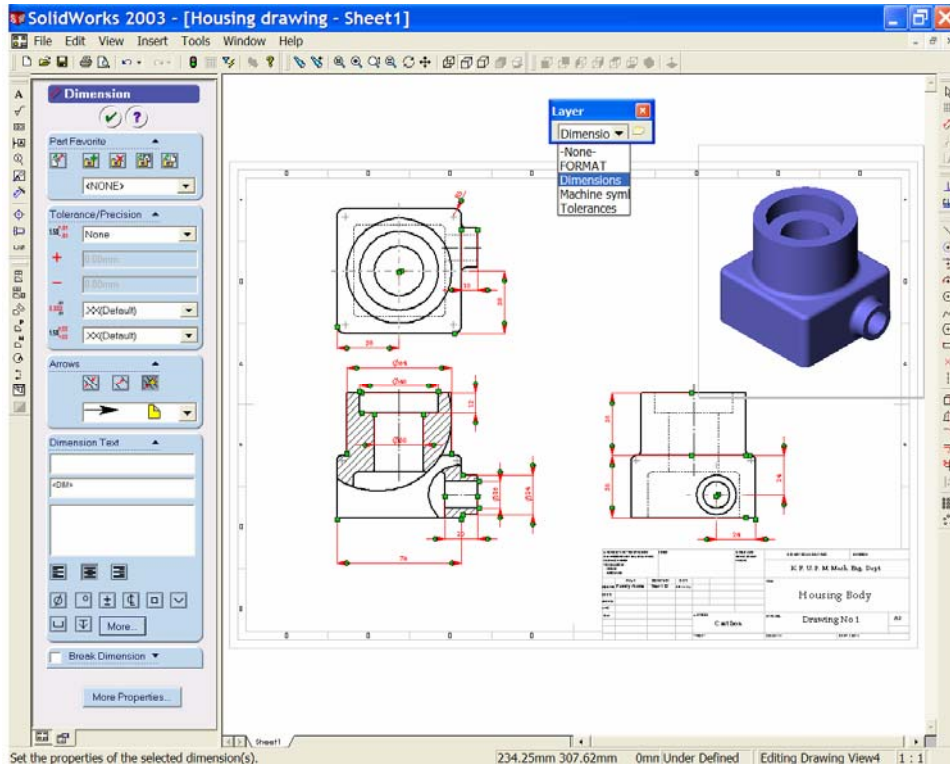

Figure 4
7. To place the dimensions on the dimension layer. **Holding the control key down**, select each dimension in turn. As each dimension is selected, it is identified on screen by green markers. When all dimensions are selected, use the down arrow of the layer toolbar to select the **'dimension'** layer. The active dimensions are now transferred to this layer and take on the colour you have set. See Figure 4. Select **OK**  from the dimensions Property Manager to end the command.